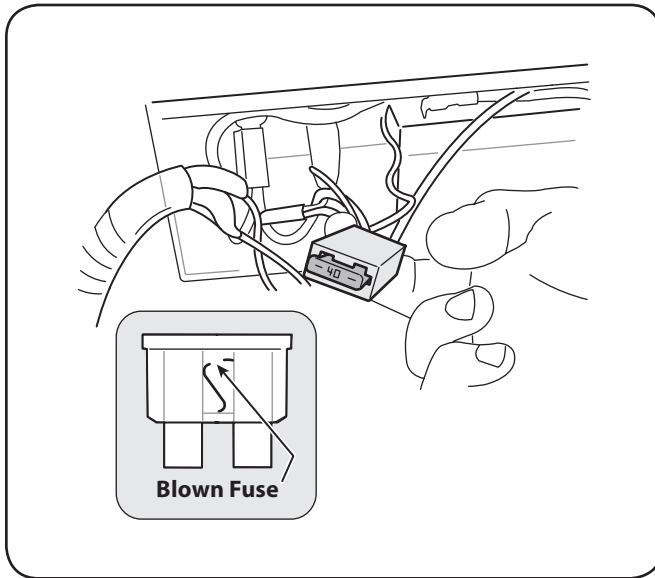

Figure 7-8
2. Remove fuse from socket and inspect as shown in Fig. 7-8. If it is burned out, replace with standard automotive 40 ampere fuse.